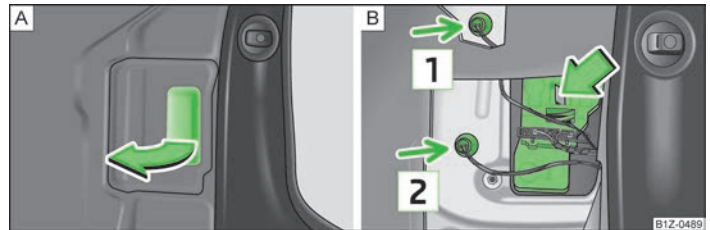

Fig. 169 Boot: Cover of the lamp holder/removing the lamp holder
- > Open the lamp holder cover » Fig. 169 - [A].
- > Press the catch in the direction of the arrow and remove the lamp holder » Fig. 169 - [B].